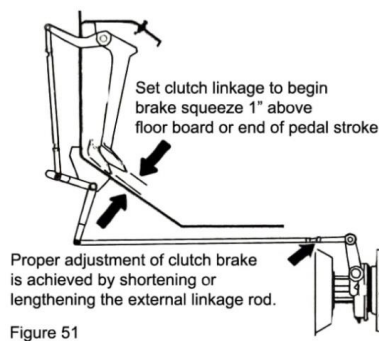

Figure 51
1. Clutch brake "squeeze" (increase resistance) must occur 1" above floorboards. This adjustment is made by shortening or lengthening the external linkage rod (Figure 51)